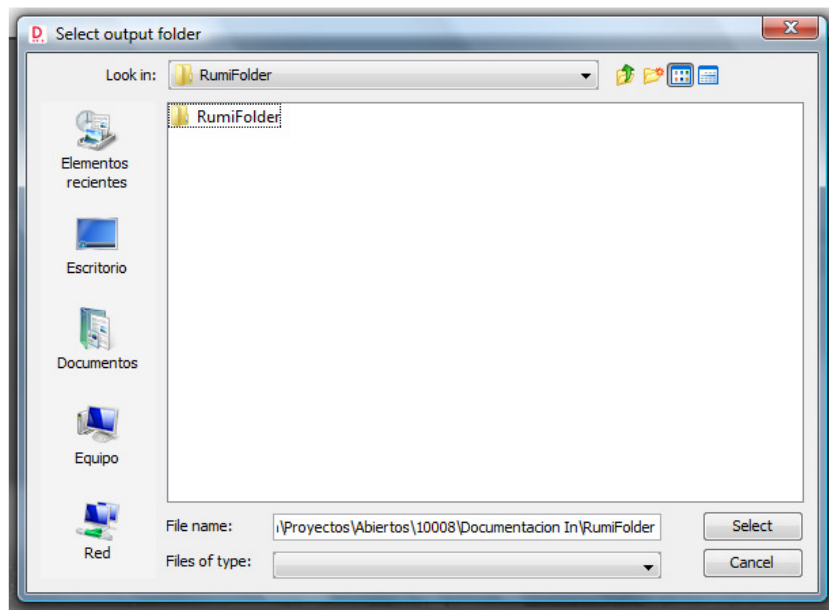

Figure 3
- Output folder: shows a folder selector to choose where files picked from downloading actions have to be saved. (Figure 3).